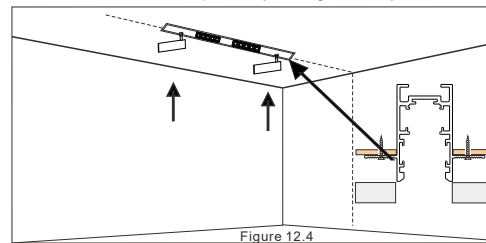

Figure 12.4
5. Put the magnetic absorption lamp into the magnetic absorption track, turn on the switch to test, the lamp can be normally energized and lit, and the track installation is completed. (See Figure 12.4)